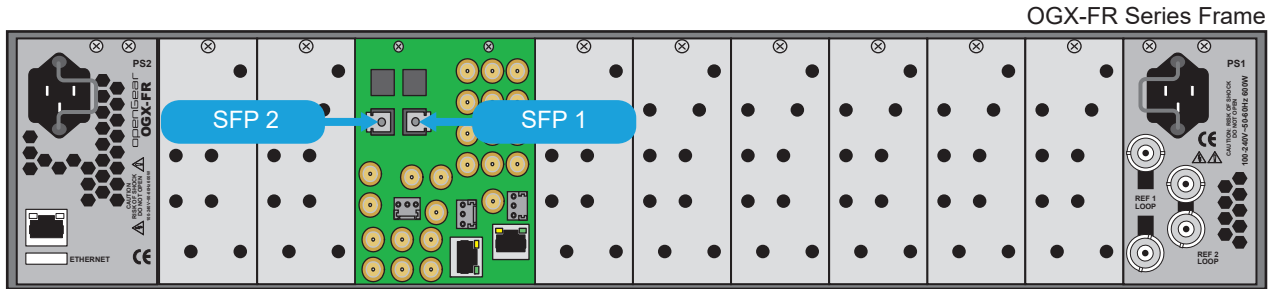

Figure 10 RAPTOR-IPG — SFP Port Connections on the 8322AR-319A
- Refer to **Figure 10** for connector location.
3. Cable your rear module as required. (**Figure 10**)